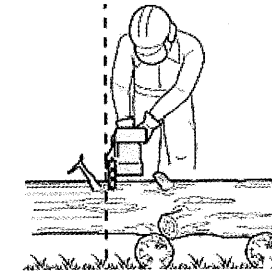

Fig. 25
3. Only use the product with a secure stance. Hold the product at the right-hand side of your body (Fig. 25).